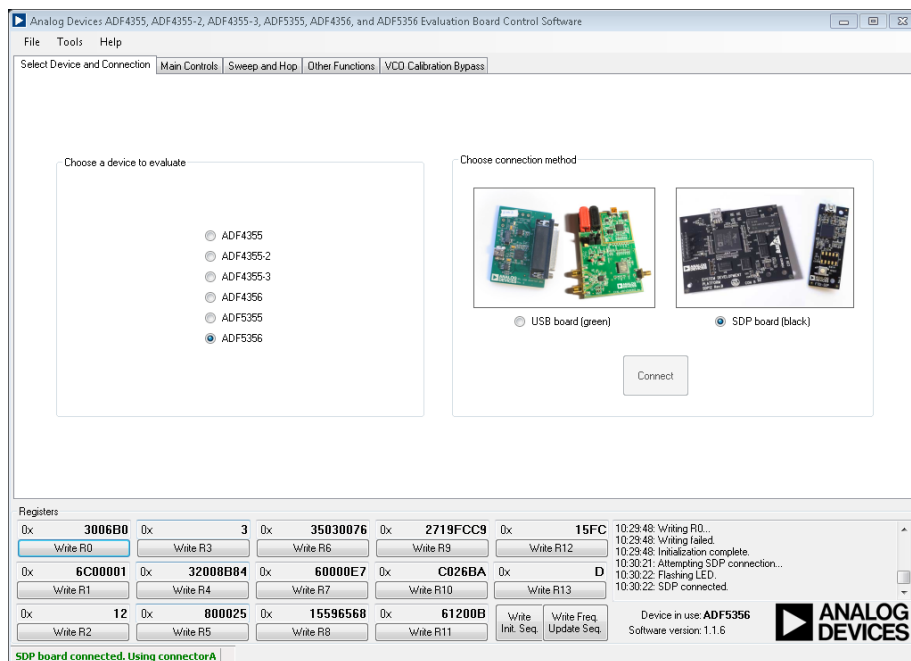

Figure 2. Software Front Panel Display—Select Device and Connection
2. On the **Select Device and Connection** tab, click **ADF5356** and **SDP board (black)**, and then click **Connect** (see Figure 2).
8. Select **ADF5356** and **SDP board (black)** in the **Select Device and Connection** tab of the software front panel display window (see Figure 2).